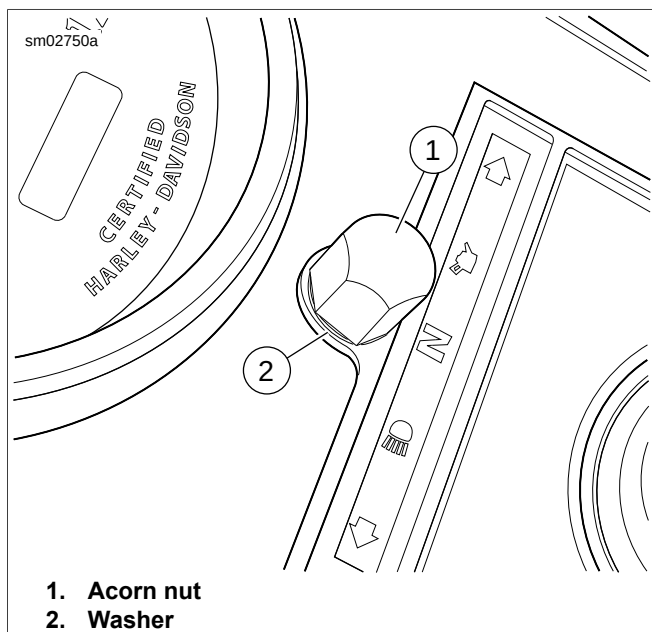

Figure 4-3. Instrument Console
- a. **All but FXS, FXSB:** see Figure 4-3. Remove acorn nut (1) and washer (2) on instrument console to separate console from fuel tank.